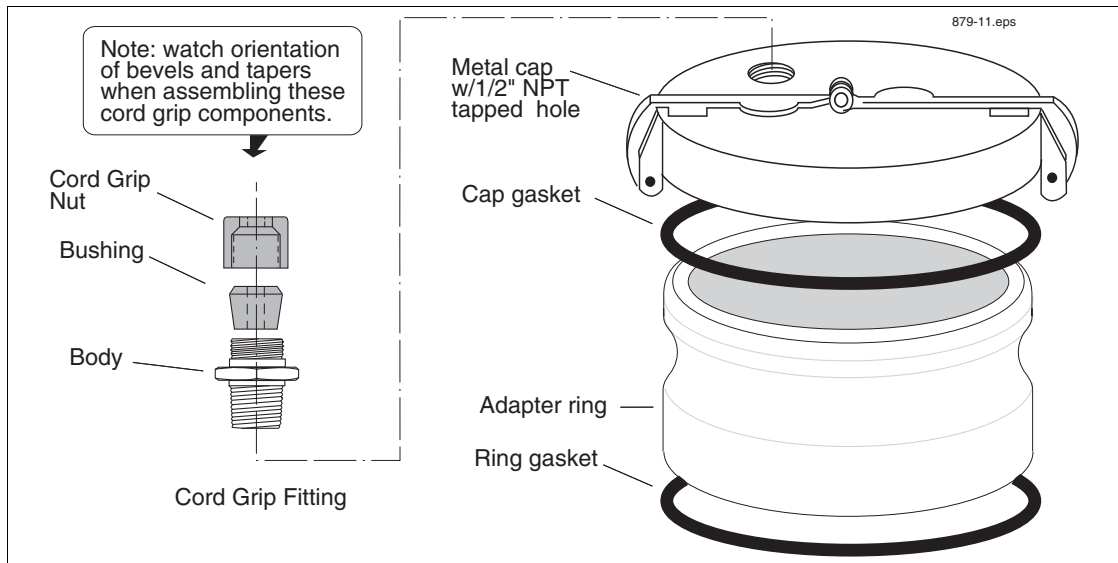

Figure 10. Metal Cap and Ring Kit
This riser cap kit contains an adapter ring which screws onto the 4"NPT riser and a quick-release metal cap which clamps onto the ring (Table 7). The cap comes drilled and tapped with a cord grip (Figure 10).
2. If you are installing the metal cap and adapter ring (see Figure 10 on page 19), screw the ring onto the 4" riser until the gasket contacts the pipe, then use a pipe wrench to tighten it an additional 3/4 turn. Push the cable through the metal cap and cord grip, then clamp the cap onto the ring.
2. If you are installing the metal cap and ring (see Figure 10 on page 19), screw the ring onto the 4" riser until the gasket contacts the pipe, then use a pipe wrench to tighten it an additional 3/4 turn. Using UL-classified pipe sealant (suitable for the fuels involved), screw the cord grip fitting into the tapped hole and tighten. Place the cord grip bushing in the fitting. Discard the cord grip nut and loosely screw the Adaptor Nut from the AST kit onto the cord grip fitting (see Figure 6 on page 15). Push the cable through the metal cap, bushing, and Adaptor nut, then clamp the cap onto the ring. Make sure there is a minimal amount of slack between the probe and cap, then tighten the Adaptor Nut until the cable is held firmly.